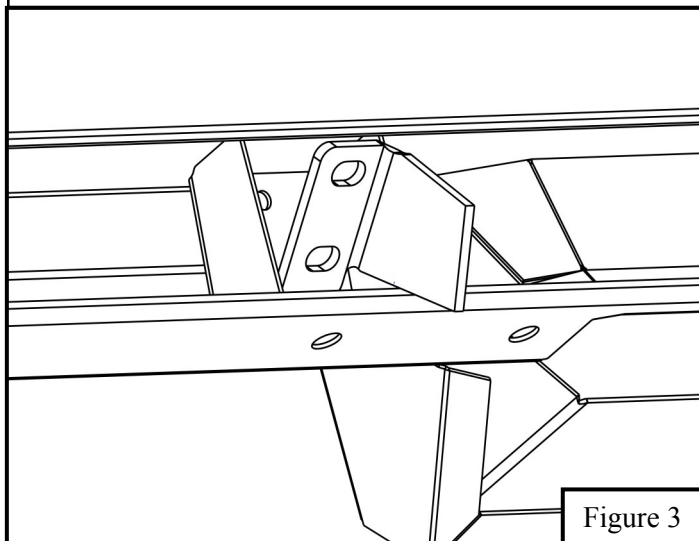

Figure 3
4. For Step Board installation tilt board at angle to mount to brackets. **See Figure 3.**